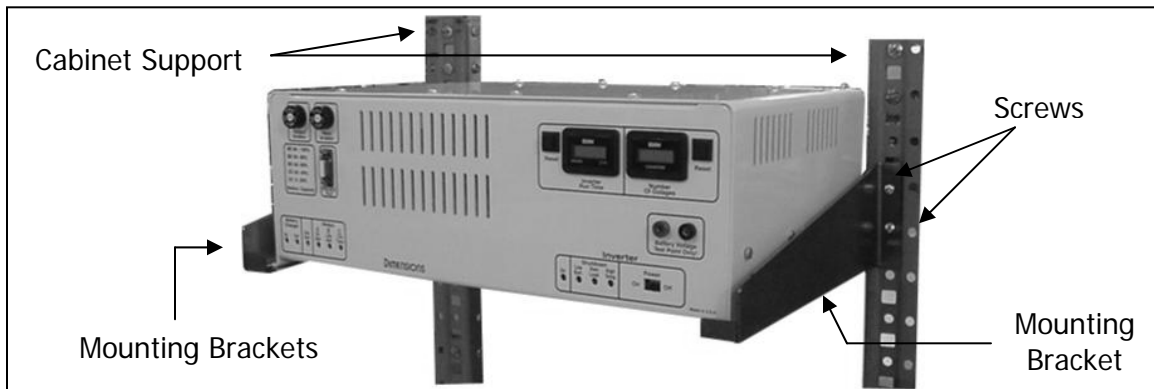

FIGURE 4: Rack mounting
- b) Place the BBS over the flanges of the two mounting brackets. See Figure 4 below.